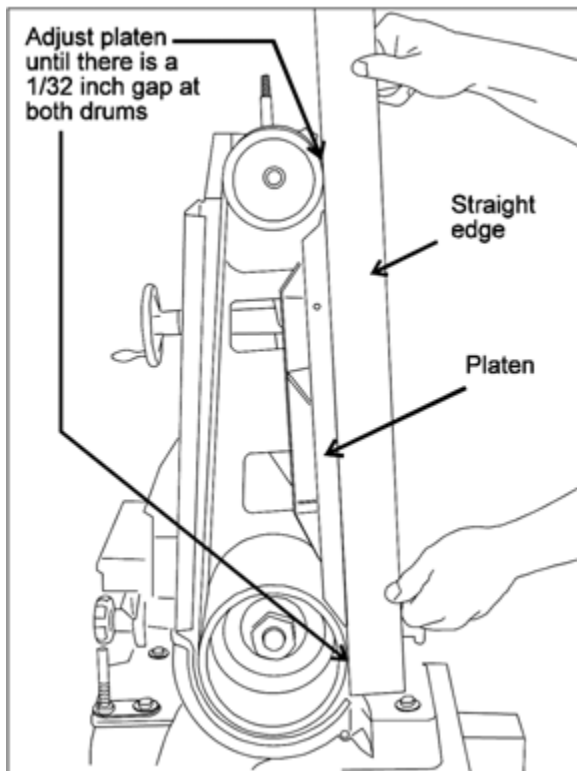

Figure 8: Method for adjusting height of platen above drive and idler drums
6. Using a straight edge as shown in Figure 8, adjust the platen height until it is 1/32 inch higher than the crown of both the drive and idler drums.